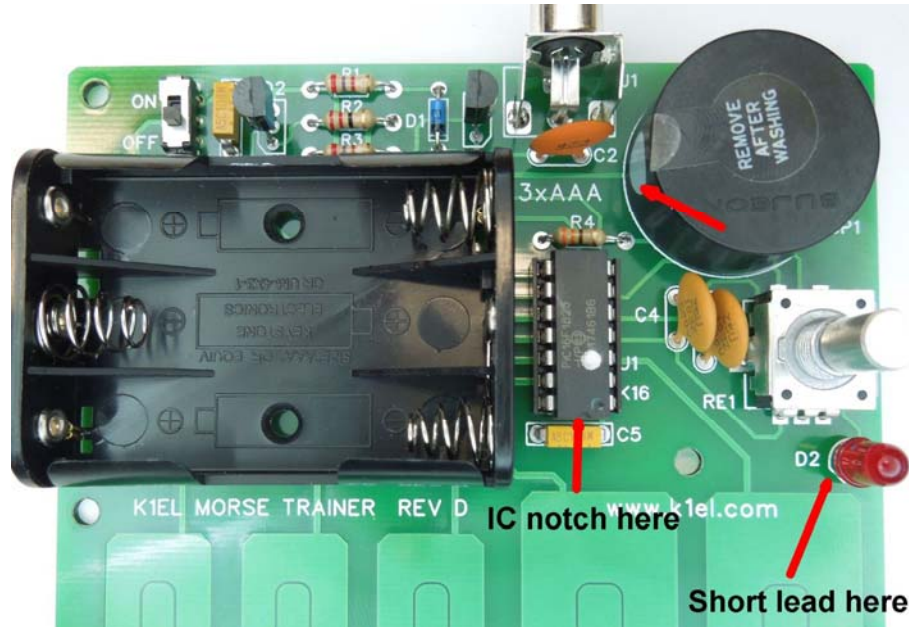

Figure 7 – Socket, 2 pin headers, Q1, Q2, speaker, and LED installed
- ___ Install the 14 pin DIP socket; orient the notch in the socket as shown in figure 7
Referring to figure 7:
- ___ Install the LED with flat side as shown. If you are not sure which side that is, note that one of the LED's leads is slightly longer than the other, an arrow on figure 7 points to where that lead goes.